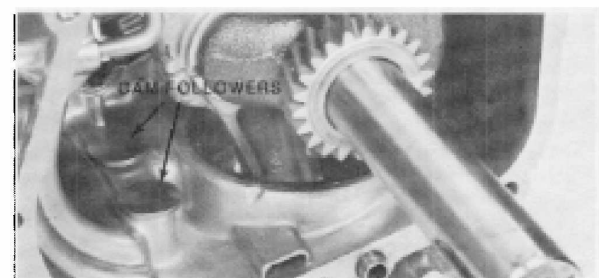

Figure 4-26
4. With the camshaft removed, the cam followers are exposed. See Fig. 4-26.